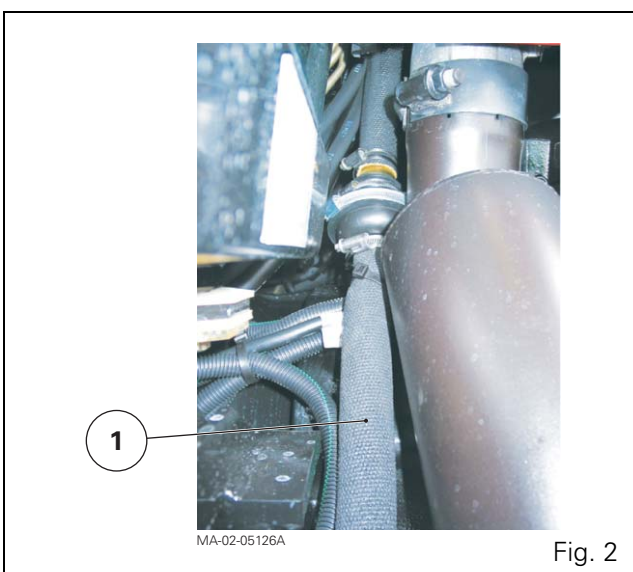

Fig. 2
10. Disconnect the flexible particle suction sleeve (1) (Fig. 2) between the air filter and the exhaust.